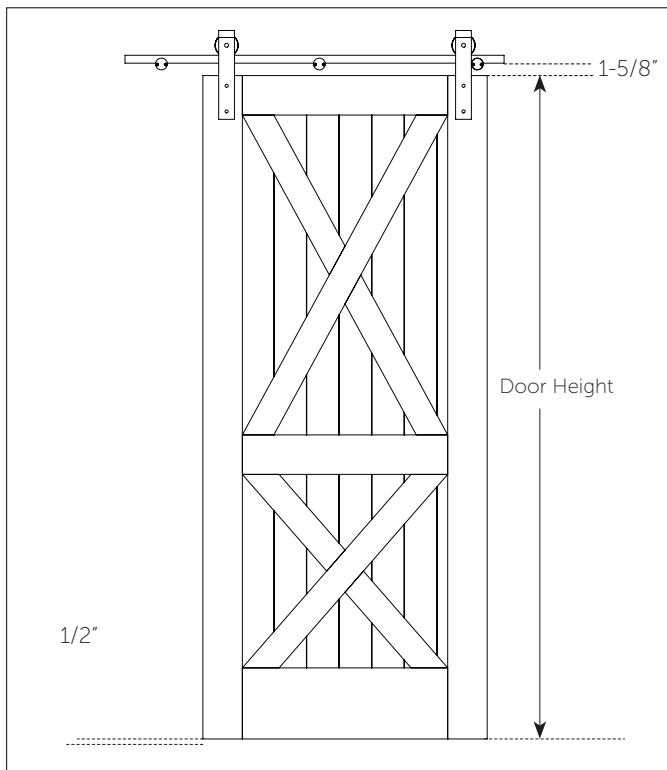

Figure 1
1. To determine where the track should be installed, first measure the height of the door, then add $2\frac{1}{4}$ " to the door length. $\frac{1}{2}$ " will be for the clearance between the bottom edge of the door and the floor. $1\frac{5}{8}$ " will be from the top edge of the door to the center of the support. (Figure 1).